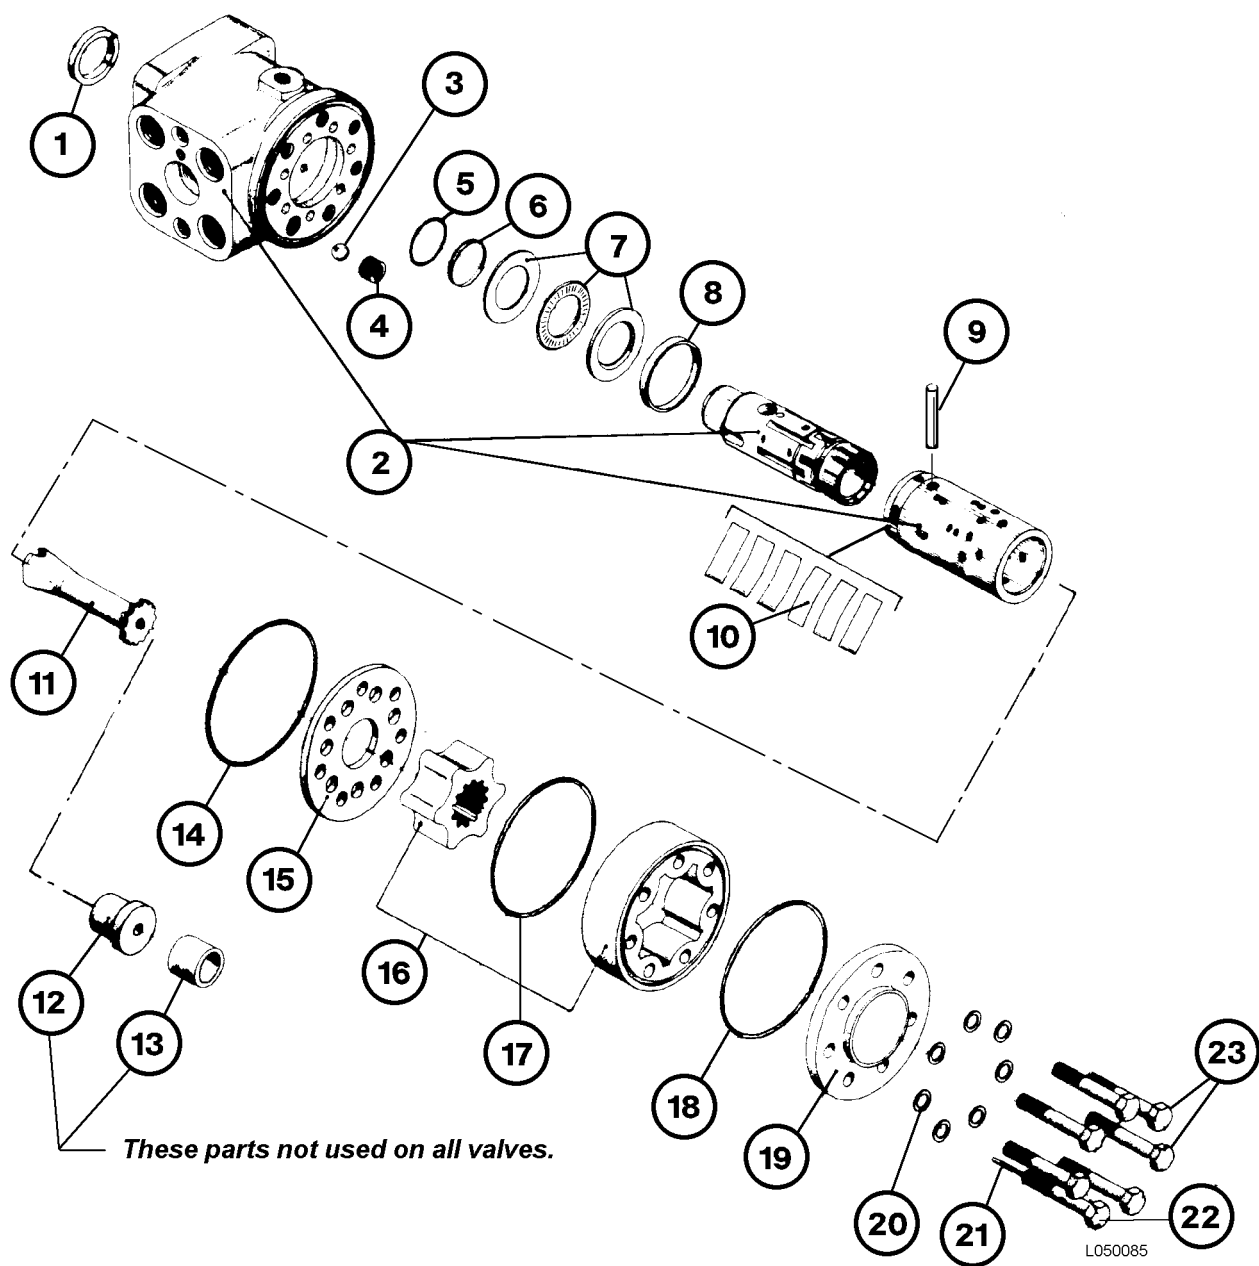

FIGURE 5-7. STEERING CONTROL VALVE
5. Remove the outer gear of gear wheel set (1) and the O-ring between the gear set and distribution plate.
7. Remove cardan shaft (11, Figure 5-7), distribution plate (15) and O-ring (14).
8. Remove threaded bushing (4) and ball (3).
5. Install cross pin (9, Figure 5-7).
7. Place dust seal (1, Figure 5-7) in position. Using a flat iron block over the seal, tap it into the housing.
12. Install distribution plate (15, Figure 5-7) so that the plate holes match the corresponding holes in the housing.
13. Guide cardan shaft (11) down into the bore with the slot in the cardan shaft aligned with cross pin (9).
15. Lubricate O-rings (17) and (18) on both sides of the outer gear wheel with Vaseline and install them.
17. Align cover (19), using the match marks as a reference. Install capscrews (23) and washers (20).
18. Install capscrew with pin (22) into the proper hole.